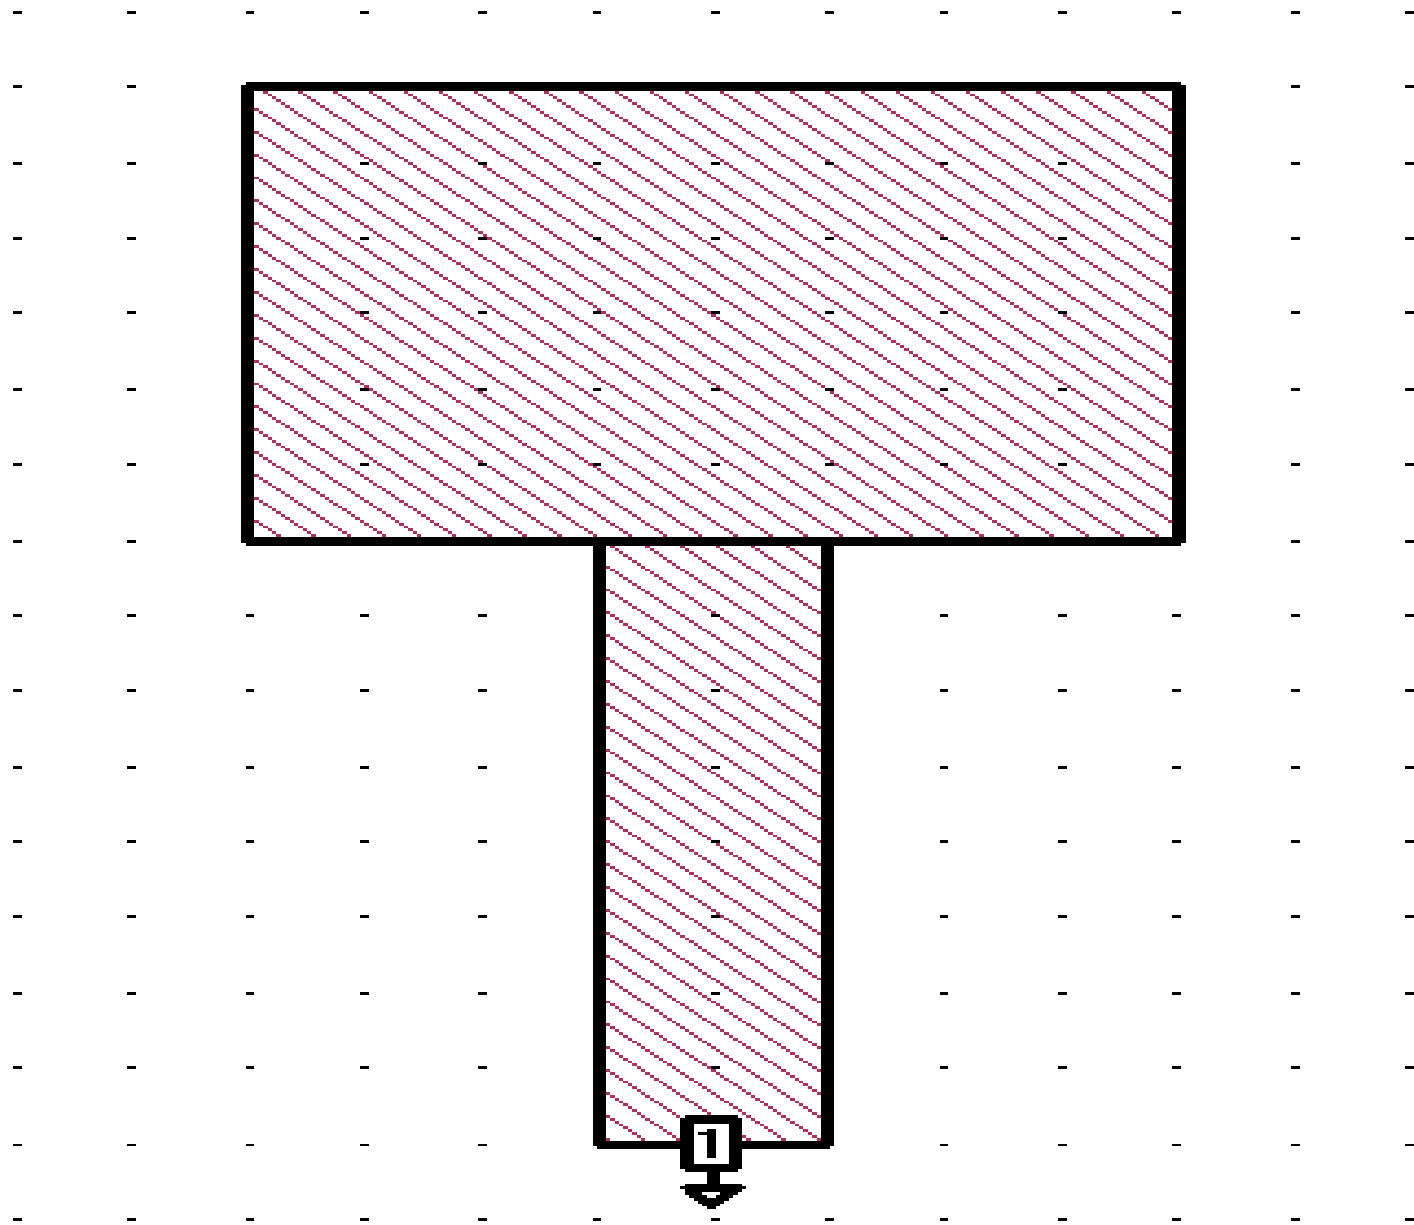

Fig. 1. Top view of the antenna
- Figure 1 has the top view of the antenna. The antenna is built on a 1.6mm thick FR4 substrate. The dielectric constant is $\epsilon_r = 4.4$ for this material.